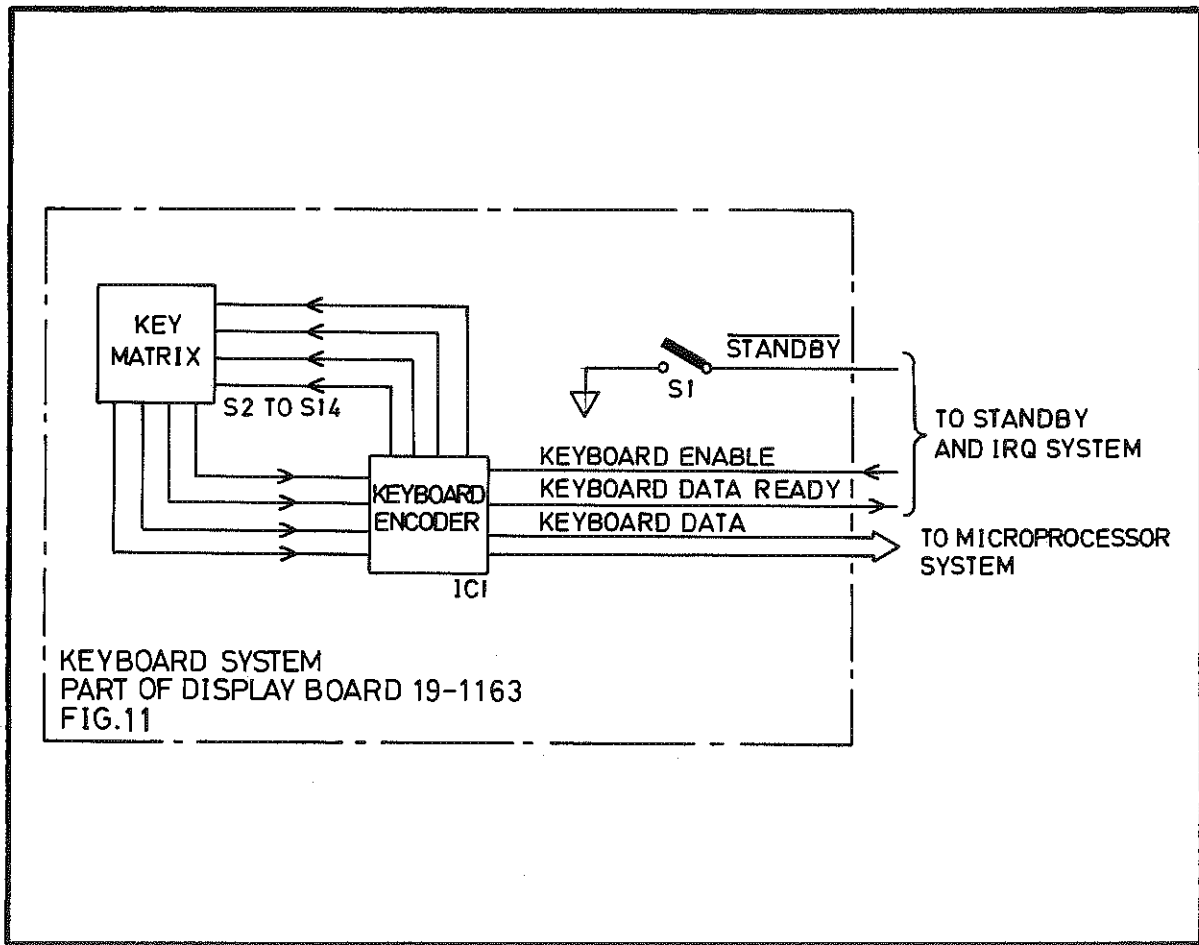

Fig 6.8 The Keyboard System
- 73 A block diagram of the system is given in Fig 6.8. When a key is pressed the keyboard encoder generates a 4-bit word, corresponding to the position of the key within the matrix, without microprocessor action. An interrupt request (IRQ) is made to the microprocessor on the KEYBOARD DATA READY line when encoding is complete. Data transfer is initiated by the KEYBOARD ENABLE signal from the microprocessor.